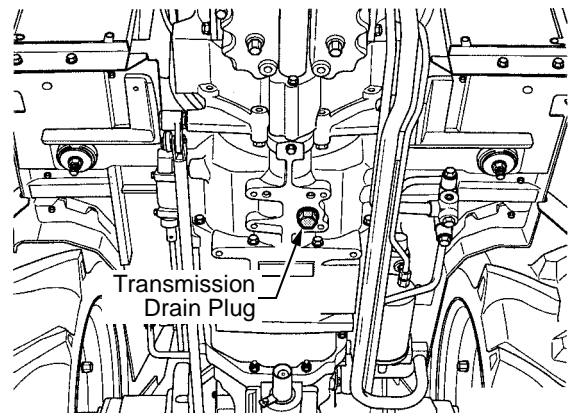

Figure 59
- Locate the drain plug on the bottom of the transmission. Place a suitable container below the drain plug to collect the old oil. See Figure 59.